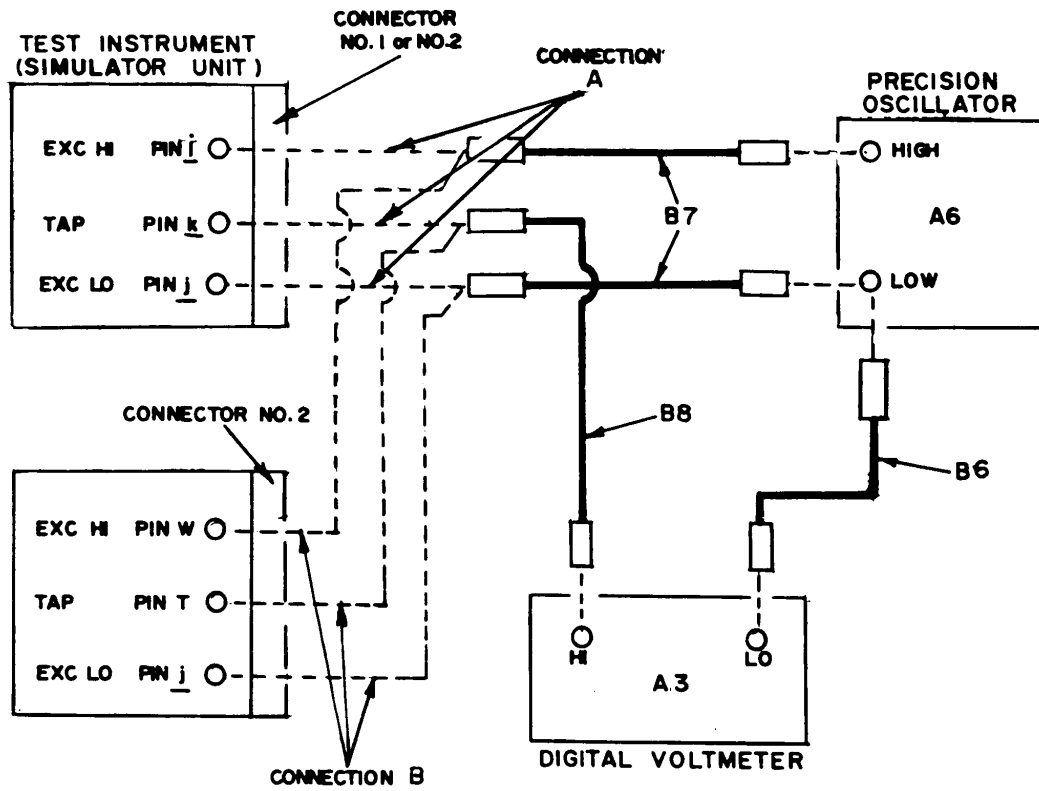

Figure 3. Engine oil pressure - equipment setup.
(1) Connect equipment as shown in figure 3, connection A for connector No. 1. Do not disconnect equipment connected in figure 1.
(2) Set TI ENGINE OIL PRESS NO. 1 CAL/NOR switch to CAL and HI/LO switch to LO.
(3) Set precision oscillator (A6) for a 6-V, 400 Hz output.
(4) Set ON-OFF-SIM ONLY switch to SIM ONLY. If digital voltmeter (A3) does not indicate between 3.447 and 3.735 V ac, perform **b**(1) through (4) below.
(5) Set ENGINE OIL PRESS NO. 1 HI/LO switch to HI. Digital voltmeter will indicate between 2.770 and 3.058 V ac.
(6) Set ENGINE OIL PRESS NO. 1 CAL/NOR switch to NOR and adjust ENGINE OIL PRESS NO. 1 variable control from fully ccw to fully cw. If digital voltmeter does not indicate from more than 3.447 to less than 2.770 V ac, perform **b**(1) through (3) and (5) and (6) below.
(7) Set ON-OFF-SIM ONLY switch to OFF and precision oscillator switch to OFF.
(8) Connect equipment as shown in figure 3, connection A, for connector No. 2.
(9) Repeat (2) through (7) above except use ENGINE OIL PRESS NO. 2 controls. If not within tolerance in (4) above, perform **b**(1) through (3) and (7) below. If not in tolerance in (6) above, perform **b**(1) through (3) and (8) and (9) below.
- (1) Connect equipment as shown in figure 3, connection B, for connector No. 2. Do not disconnect equipment connected in figure 1.
- (2) Set XMSN OIL PRESS CAL/NOR switch to CAL and HI/LO switch to LO.
- (3) Set precision oscillator (A6) for a 6-V, 400 Hz output.
- (4) Set ON-OFF-SIM ONLY switch to SIM ONLY. If digital voltmeter (A3) does not indicate between 3.447 and 3.735 V ac, perform **b** (1) through (4) below.
- (5) Set XMSN OIL PRESS HI/LO switch to HI. Digital voltmeter will indicate between 2.696 and 2.984 V ac.
- (6) Set XMSN OIL PRESS CAL/NOR switch to NOR and adjust XMSN OIL PRESS variable control from fully ccw to fully cw. If digital voltmeter does not indicate from more than 3.447 to less than 2.696 V ac, perform **b**(1) through (3) and (5) through (7) below.
- (7) Set ON-OFF-SIM ONLY switch to OFF.